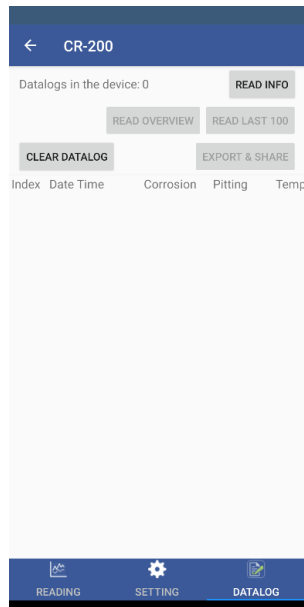

Figure 23.
3. If the connection is successful, the CR Series and its Serial Number (SN) will be displayed (Figure 23).
The default setting for the steel general corrosion rate 4–20 mA output is 20 mA = 10 MPY and 4 mA = 0 MPY. The default setting for the steel pitting index is 20 mA = 100 Index and 4 mA = 0 Index. The user can alter the 4–20 mA scale as desired by filling the fields shown in Figure 23.